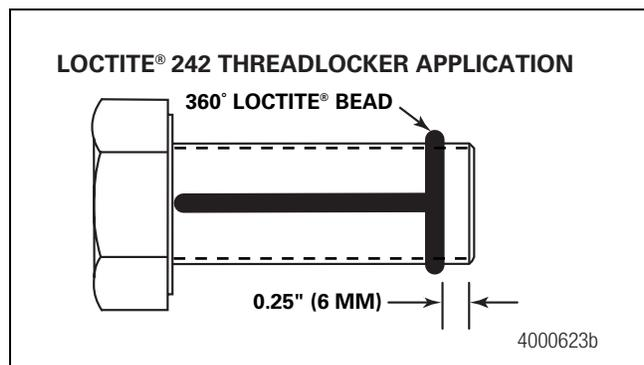

Figure 6.10
13. Apply a 0.125-inch (3 mm) bead of Loctite® 242 threadlocker around the capscrew threads approximately 0.25-inch (6 mm) from the end. Apply a 0.125-inch (3 mm) bead of Loctite® 242 threadlocker across the length of the threads. Figure 6.10.